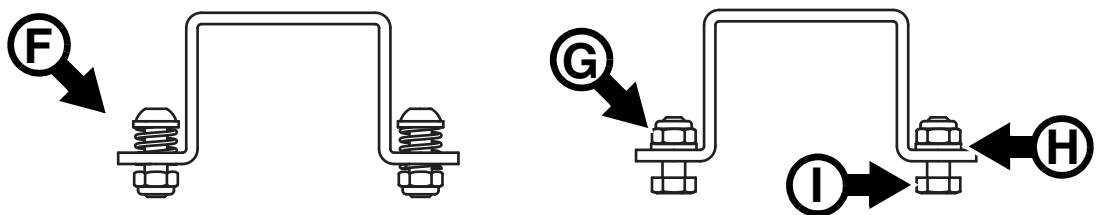

Figure 5: Sliding bracket fasteners
1. See Figure 5. Remove the spring-loaded fasteners **F** from the sliding bracket, removing the two Torx screws with their washers, springs and self-locking nuts. Keep all these items safe for possible future use.
1. See Figure 5. Remove the M6 nuts **G**, washers **H** and bolts **I** from the bracket.